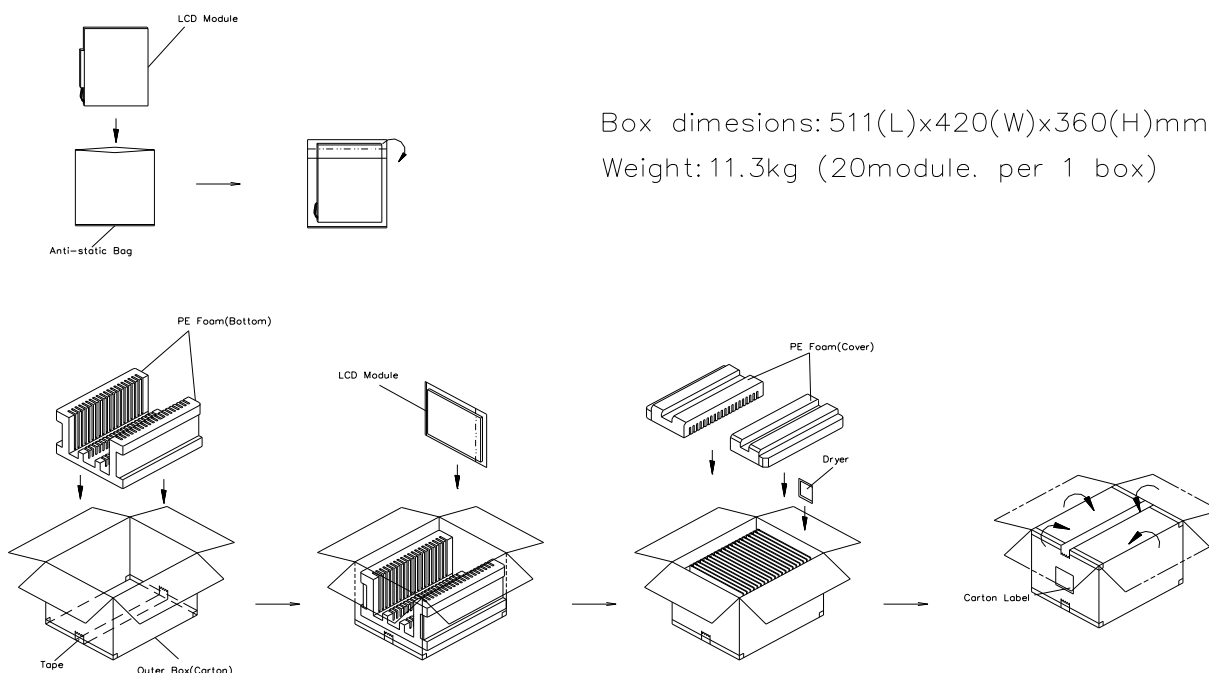

Figure. 7-1 Packing method (Carton)
- (2) The Figure. 7-1,2 show the packing method.